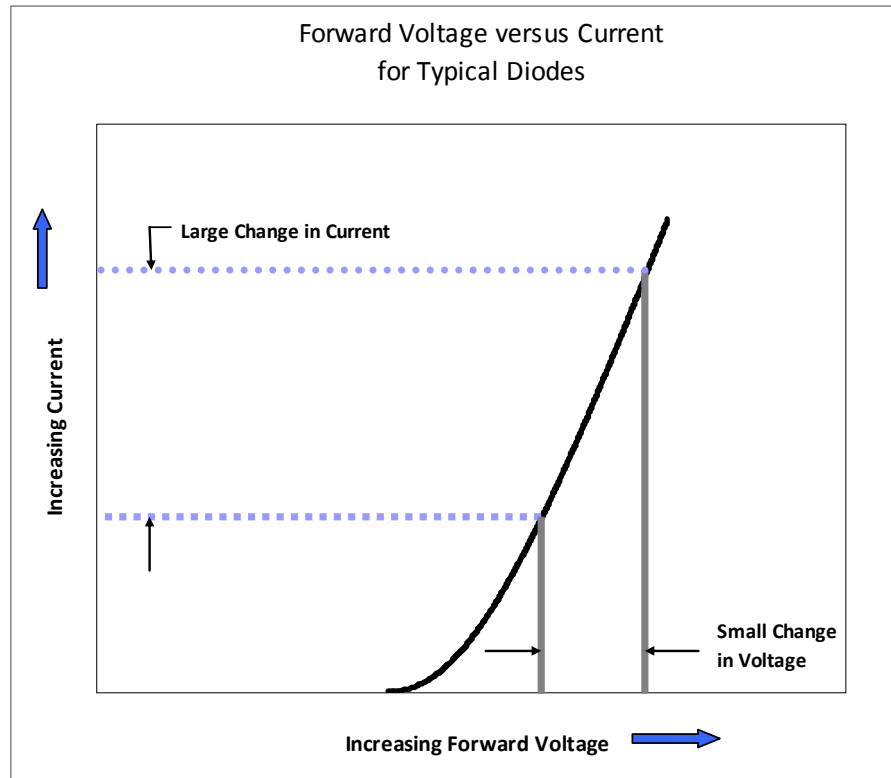

Figure 2: Impact of a small voltage change on forward current for a typical diode
2. A small change in voltage can result in a large change in the forward current flowing through the junction, and ultimately in a large change in flux performance (Figure 2).